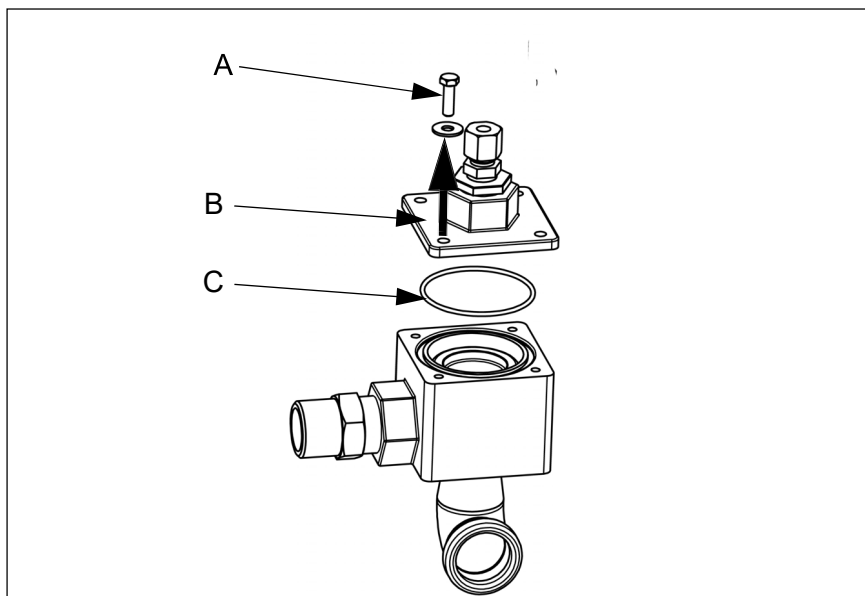

Fig. 14:
2. Remove compression spring (3, Fig. 14) and piston (2, Fig. 14).
1. Loosen hex-head screws (A, Fig. 14).
2. Remove SEV cover (B, Fig. 14).
3. Remove O-rings (C, Fig. 14) and clean all surfaces.